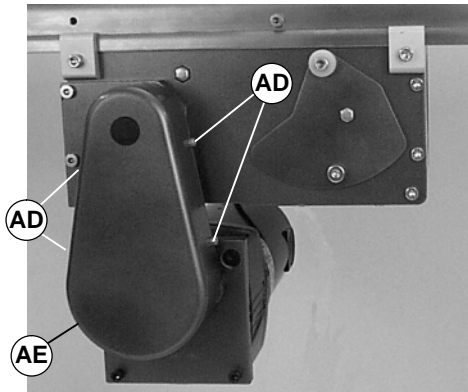

Figure 21
**NOTE:** Figures 21 & 22 show a vertical mount in the A1 position with a parallel shaft gearmotor. Horizontal mount, D1 position and/or 90° gearmotor are similar.
3. Remove four (4) screws (AD of Figure 21) and remove cover (AE).